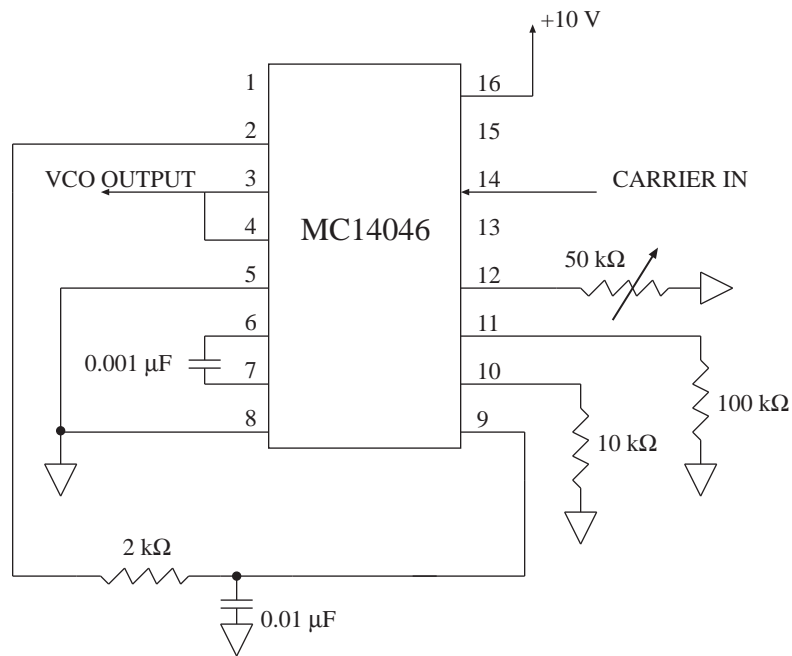

Figure 7: PLL circuit for adjusting the free-running frequency.
- (a) Adjust the free-running frequency (pin 4) to 100 kHz by varying the 50 kΩ potentiometer. Construct the circuit in Figure 7 to adjust the free-running frequency.